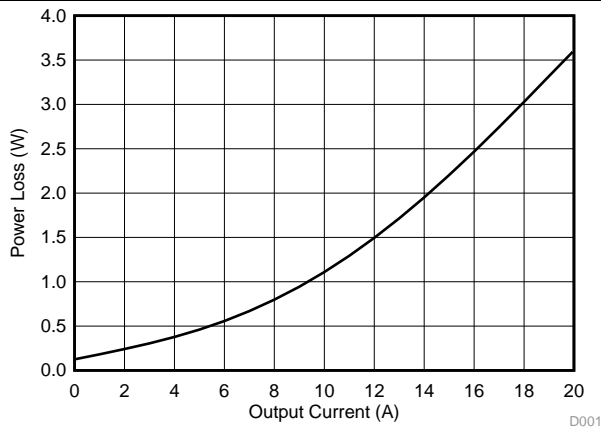

Figure 1. Power Loss vs Output Current
MOSFET centric parameters such as  $R_{DS(ON)}$  and  $Q_{gd}$  are needed to estimate the loss generated by the devices. In an effort to simplify the design process for engineers, Texas Instruments has provided measured power loss performance curves. **Figure 1** plots the power loss of the CSD86336Q3D as a function of load current. This curve is measured by configuring and running the CSD86336Q3D as it would be in the final application (see **Figure 30**). The measured power loss is the CSD86336Q3D loss and consists of both input conversion loss and gate drive loss. **Equation 1** is used to generate the power loss curve.
The power loss curve in **Figure 1** is measured at the maximum recommended junction temperatures of 125°C under isothermal test conditions.
- Power loss at 18 A = 3.03 W (Figure 1)